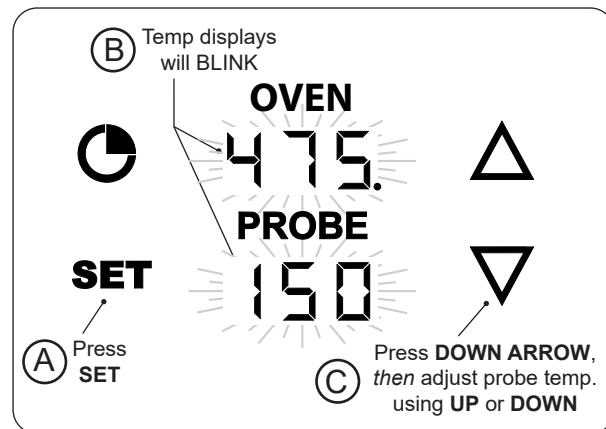

Fig. 41-2 Set probe temperature
1. With the thermometer **on** and the meat probe plugged in, press the **SET** button once. The OVEN and PROBE displays will blink. (While blinking, either area can be selected to enter their settings.) See Fig. 41-2, A and B.
2. Press the **DOWN ARROW** to select the probe settings, *then* you may use the up or down arrows to set the desired temp (Fig. 41-2, C).